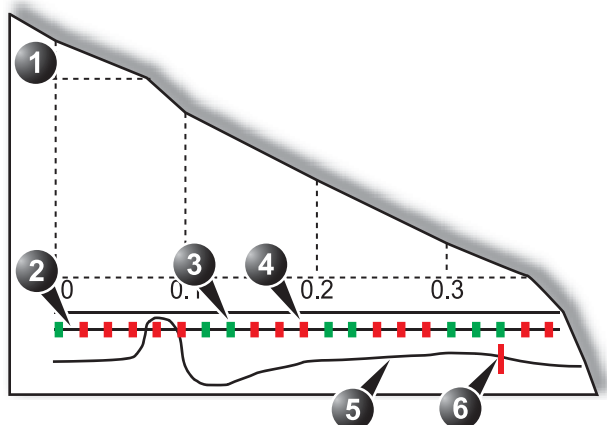

Figure 9-2. Frame disabling
1. Place the cursor on the frame marker of the frame to disable beneath the *Analysis* window (see Figure 9-2).
2. Place the cursor on the frame marker of the frame of interest in one of the heart cycles (see Figure 9-2).